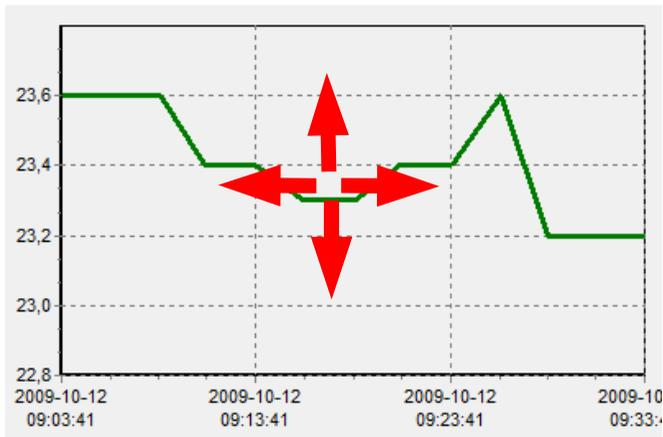

Figure 4.7. Moving the graph
- **moving the graph** - the graph can be moved to the left/right (earlier/later time period, correspondingly) or to the down/up (lower/higher measurements range, correspondingly) . In order to do this, right-click on the graph and drag the pointer in desired direction (**Figure 4.7**).